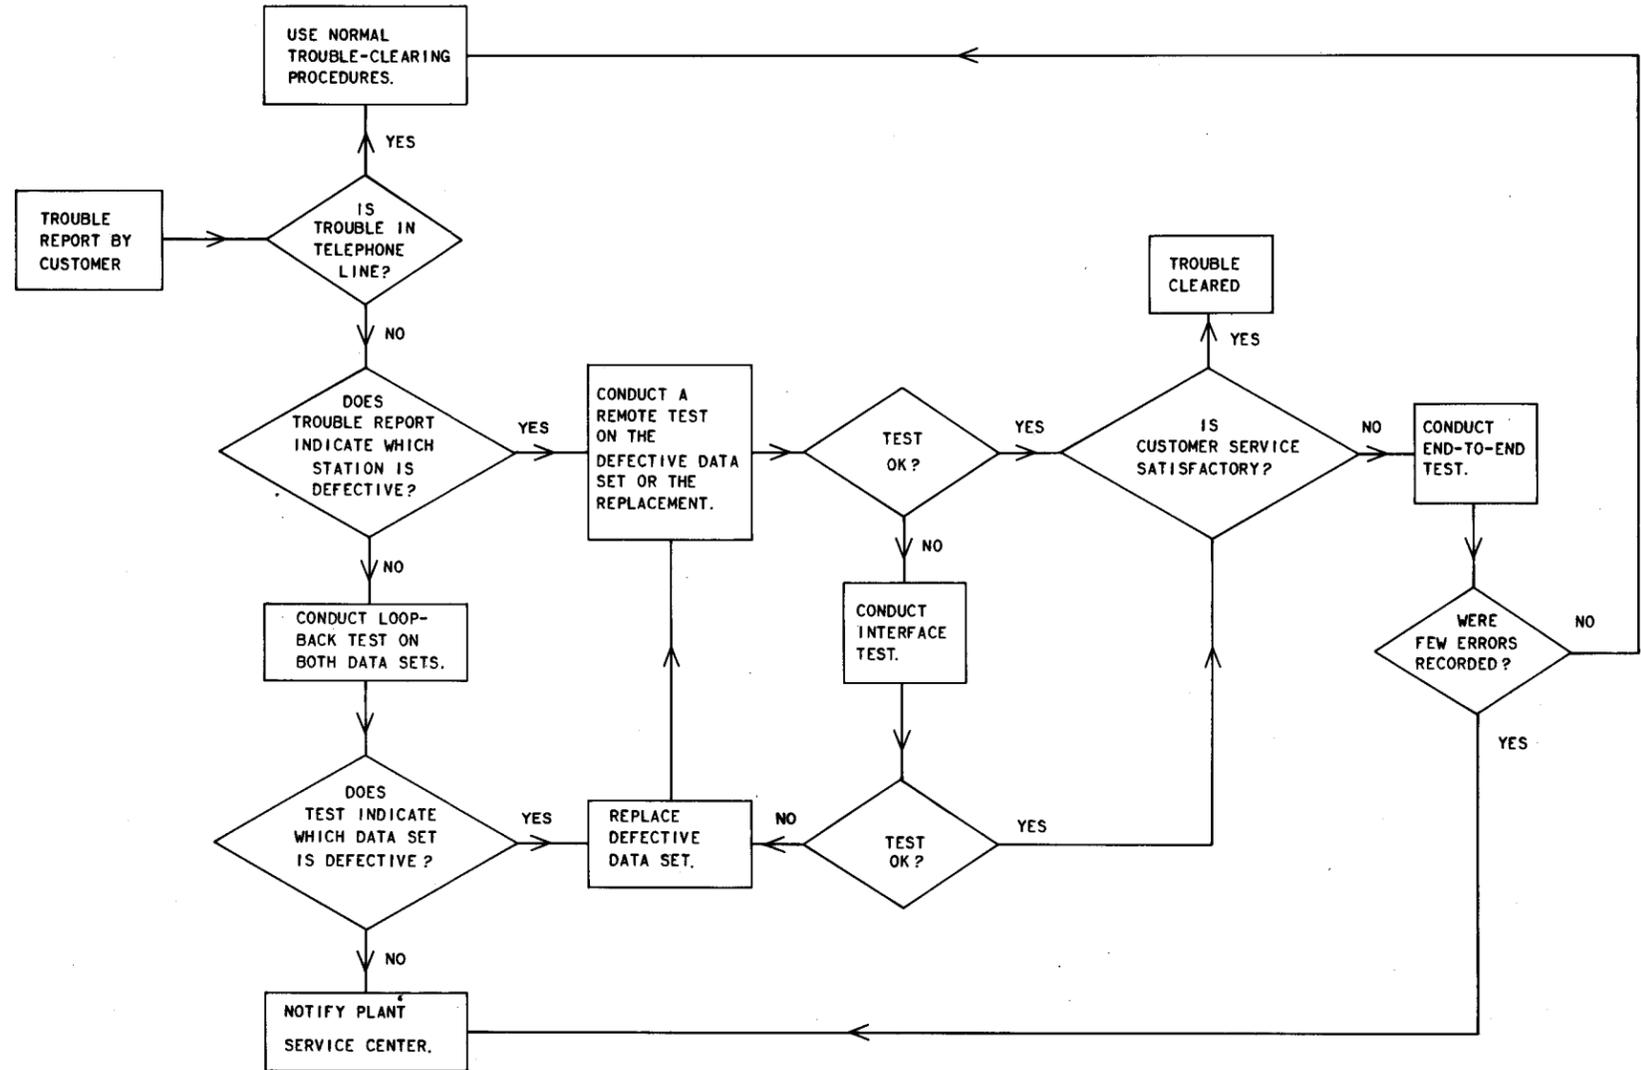

Fig. 1—Craft Employee Analysis for Clearing a Trouble Report
1.02 This section is reissued to update the information and to add Fig. 1 for the craft employee to follow when dispatched to a defective DS 202A station. Because of extensive revision, change arrows, ordinarily used to indicate changes, have been omitted.
2.01 Refer to Fig. 1 when investigating a trouble report at the data station. Information concerning the test procedures referred to in Fig. 1 can be found in the section entitled Data Set 202A, Test Procedures (592-013-500).